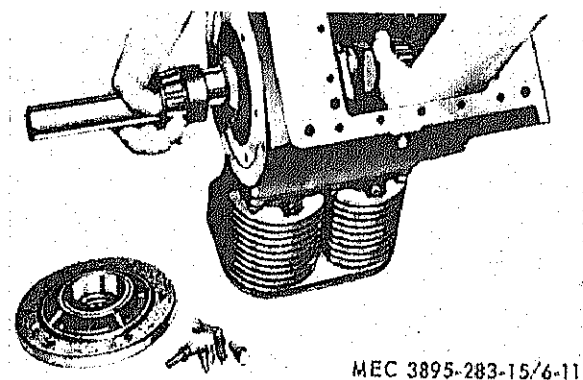

Figure 6-11. Crankshaft Removal.
a. Removal (fig. 6-11).
(1) Remove the six capscrews in the main bearing plate at the take-off end and pry off plate.
(2) Slide crankshaft out.